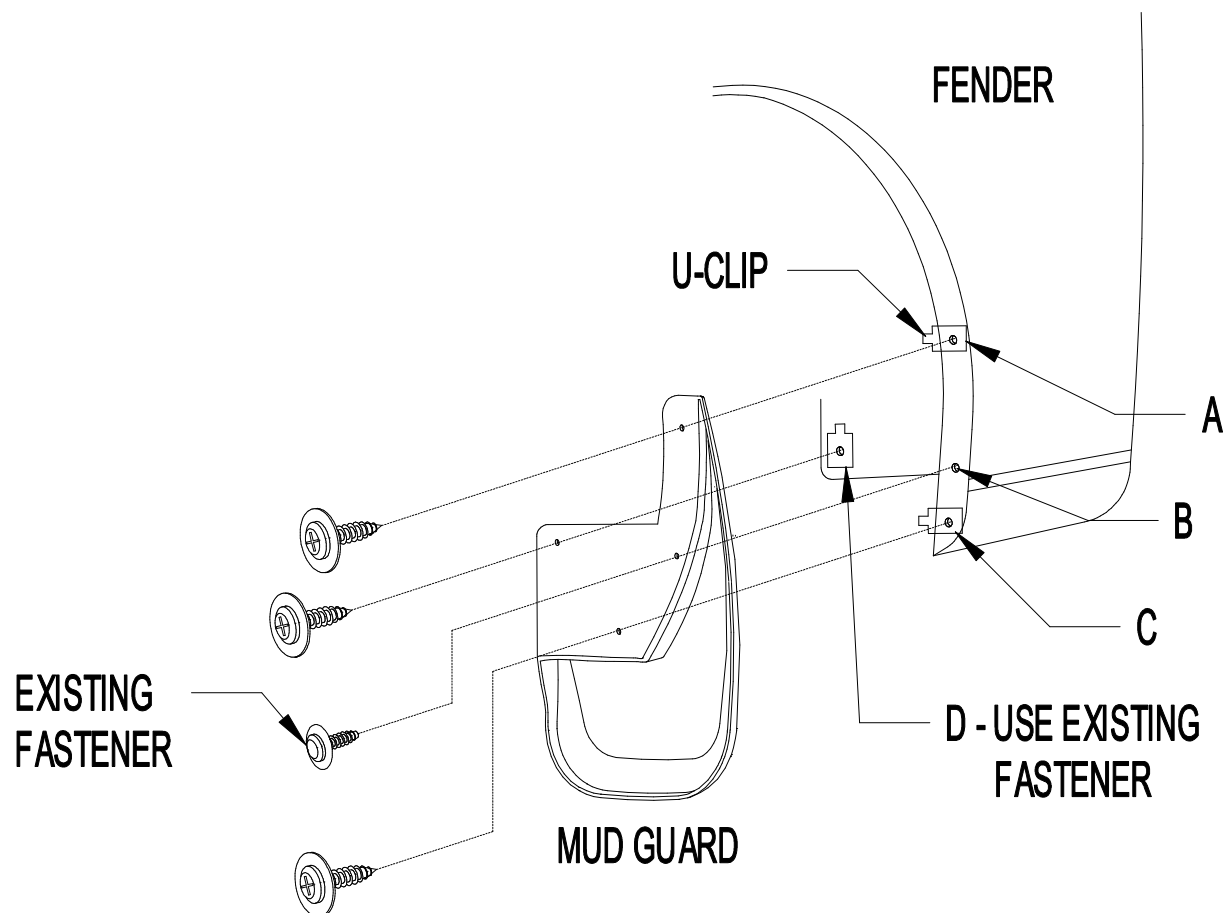

Figure 1
- #10 SEM Screw (6)
- U-clip (6)
2. Remove existing fastener from location B (Figure 1).